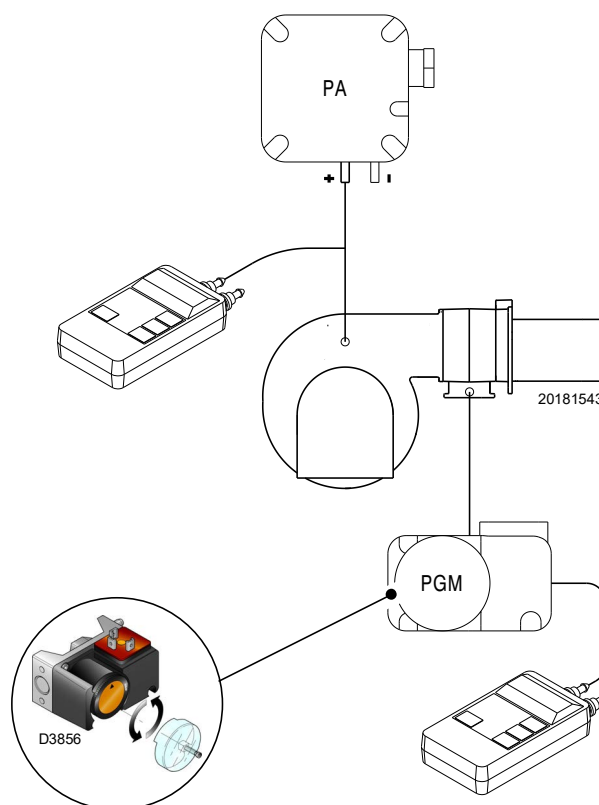

Fig. 30
- Adjust the maximum gas pressure switch (Fig. 30 at page 33) to the end of the scale.
Adjust the maximum gas pressure switch (Fig. 30) after making all other burner adjustments with the maximum gas pressure switch set to the end of the scale.